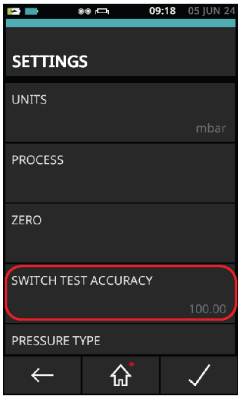

Figure 4-2: Switch test accuracy setting
If a different accuracy value is necessary, tap the **SETTINGS** icon to show the **SETTINGS** screen that has the **SWITCH TEST ACCURACY** function (refer to Figure 4-2 on page 31).
8. Tap the **RAMP DOWN**  icon to decrease pressure in the PV624. Refer to Figure 4-2 on page 31 for the set accuracy (measured in bar.)